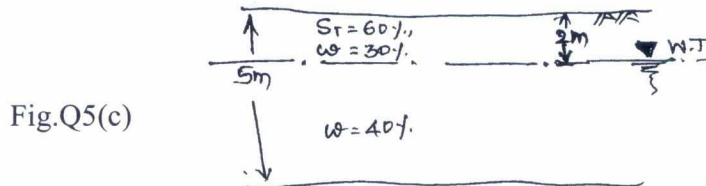

Fig.Q5(c)
- c. Calculate and draw the total, effective and pore water pressure distribution for a soil profile with properties as shown in fig. Q5(c). Assume specific gravity of soil = 2.70. (10 Marks)